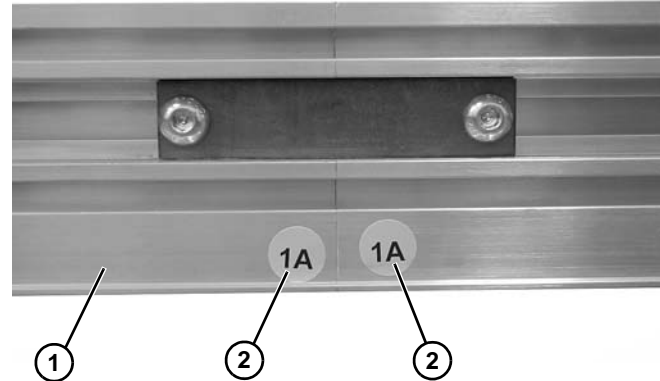

Figure 5
1. Locate and arrange conveyor sections (**Figure 5, item 1**) by section labels (**Figure 5, item 2**).